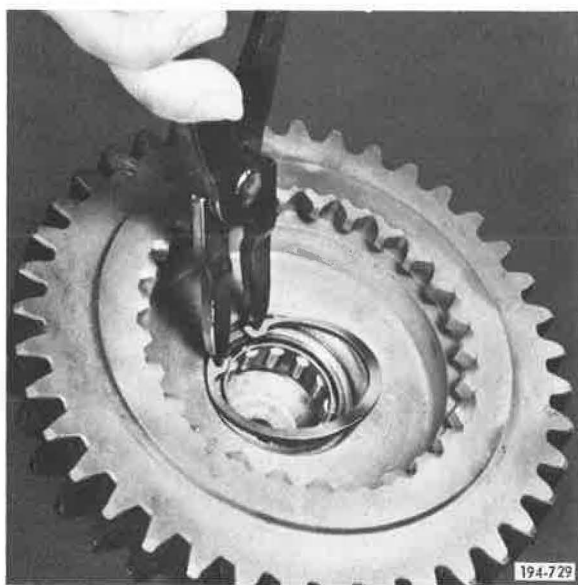

Figure 108. Removing Snap Ring
3. Remove spigot bearing retaining snap ring. See Figure 108.